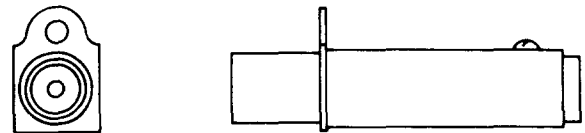

Fig. 18—487A Jack
**2.13 487A**: This coaxial-type jack (Fig. 18) is designed to be used with the 358A or similar-type plugs. This jack is not designed for cord connections. At the threaded end, the inner contact terminal is arranged for a soldered wire connection. The ac test voltage is 2000 volts. This jack forms a part of the 9A attenuator and the 26-type pads.